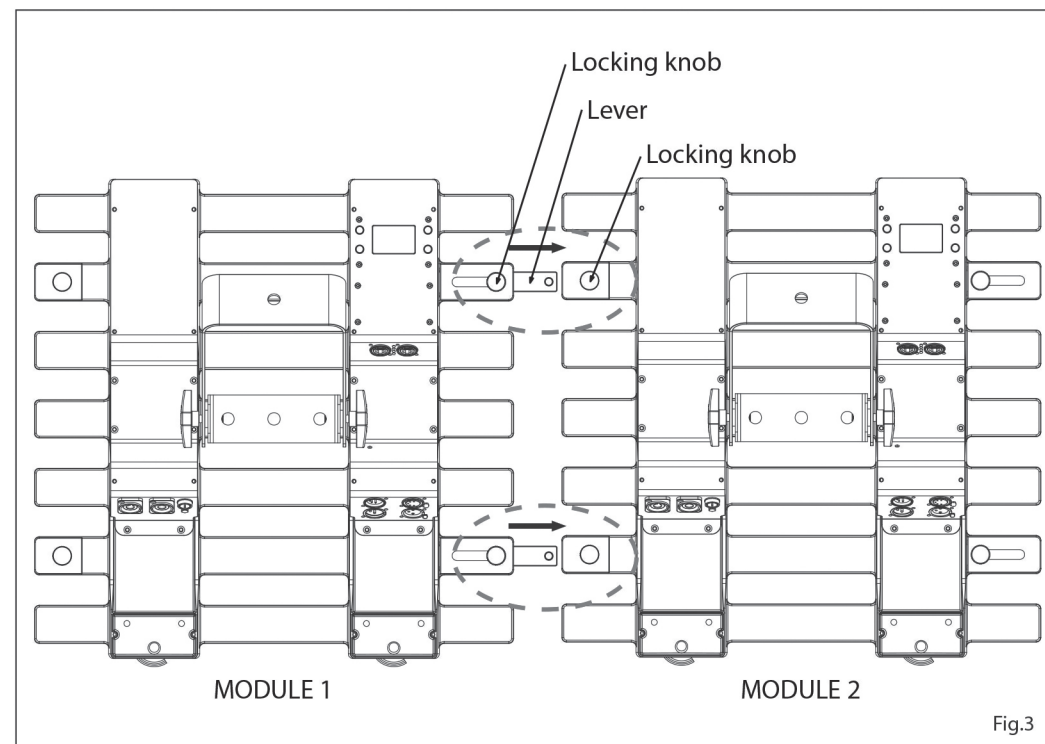

Fig.3
1. Bring near the two modules and release the lever as shown in figure 3. Lock up the lever of module 1 through the knob.